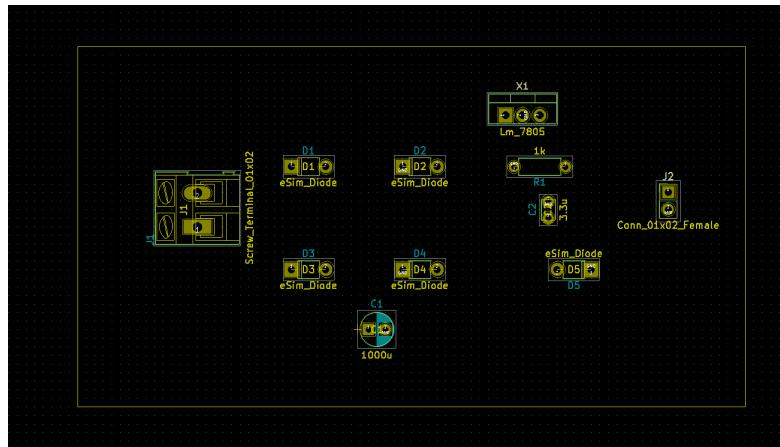

Figure 12.18: Drawing a board outline
4. Click once on the layout editor to start drawing the outline. Drag the cursor either horizontally or vertically. When it comes to the corner of the board, click once and drag the cursor in perpendicular direction. Do this till you reach the origin of the outline, and double click to finish drawing the rectangular outline. Completed outline is as shown in Fig. 12.18.
3. The procedure to place a track between Node 2 of Screw\_Terminal\_01x02 to Node 1 of D3 diode, as shown in Fig. 12.18 is described in below steps.